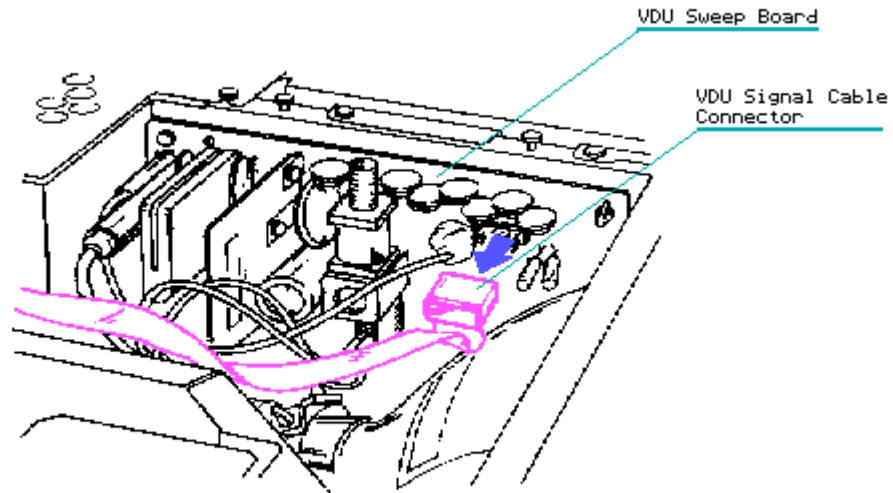

Figure 7-65. Disconnecting the VDU Signal Cable
6. Disconnect the VDU signal cable from the VDU (Figure 7-65).